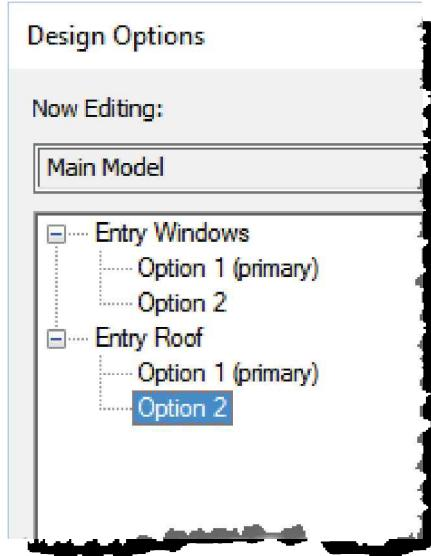

FIGURE 10-5.6
8. Create an *Option Set* for the roof (Figure 10-5.6):
It now appears like all your changes disappeared, right? Well, if you recall from the introduction to this exercise, the *Primary Option* is displayed by default for all new and existing views. So, when you finished editing *Entry Windows: Option 2* the *3D* view switched back to the *Primary Option*, which is currently set to *Option 1* (Fig. 10-5.6).